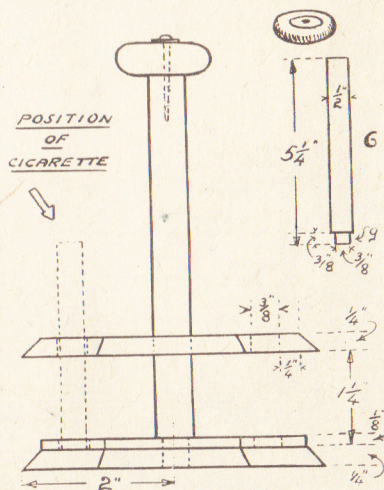

Fig. 3—Section and detail of spindle
Now take a $\frac{1}{4}$ in. square opening out of the centre of (B) and another of $\frac{3}{8}$ in. sides from the middle of the base. These are for the handle (G) (Fig. 3). It would be nice if this latter could be turned on a lathe at the top to some pleasing shape, but in lieu of this finish, a square-section length of wood with a 'button' on top